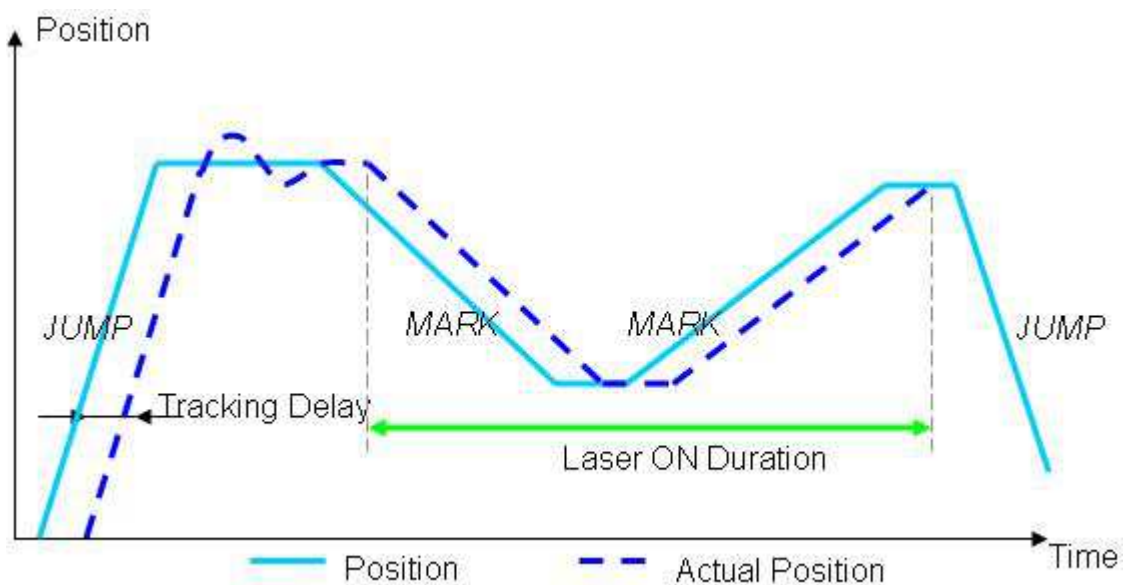

Figure 8: Figure 8: Illustrating Actual vs. Commanded Position Delay
Figure 8 above shows a typical galvo position command signal in which the galvo is directed to move from point to point. It also shows the actual position the galvo achieves which lag behind the commanded position by a "Tracking Delay" (TD)